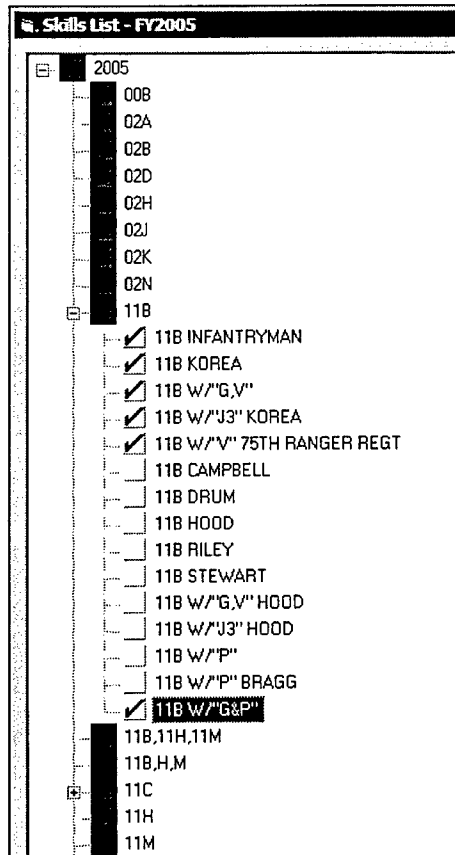

Figure 27. Updated Skill List
5. When you are finished defining the skill, click the *Add* button. If the skill already exists in the database you will be notified. Note that the new skill will not appear in any plans until you have activated it from the *Edit/Skill List* function (Figure 27).